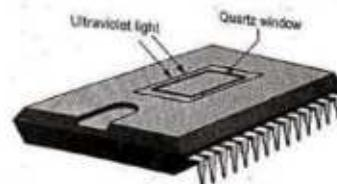

Fig. 7.5.4 EPROM
- Erasable programmable ROMs use MOS circuitry. They store 1's and 0's as a packet of charge in a buried layer of the IC chip. EPROMs can be programmed by the user with a special EPROM programmer. The important point is that we can erase the stored data in the EPROMs by exposing the chip to ultraviolet light through its quartz window for 15 to 20 minutes, as shown in the Fig. 7.5.4.